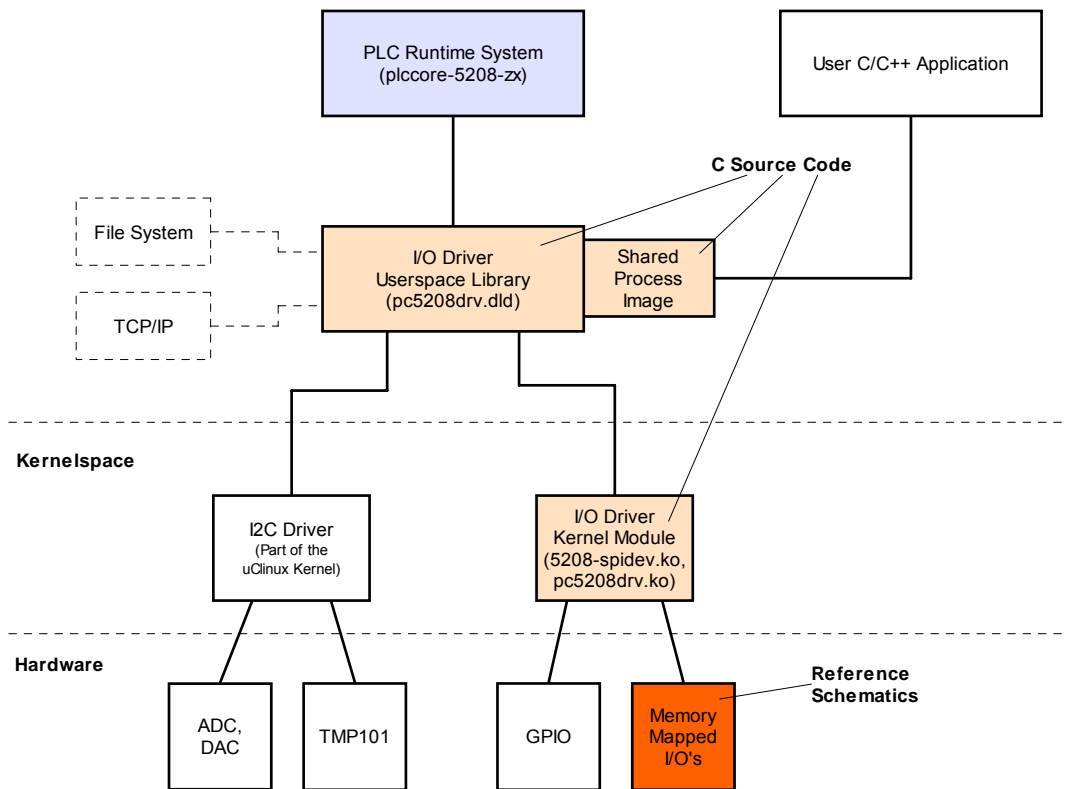

Figure 30: Overview of the Driver Development Kit for the PLCcore-5208
Figure 30 provides an overview of the DDK structure and its components. The DDK contains amongst others the source code of the Linux kernel driver (*pc5208drv.ko*) and the Linux user library (*pc5208drv.dla*).
1. Source code for the uClinux kernel driver (pc5208drv.ko, see Figure 30); includes all files necessary to regenerate kernel drivers (C and H files, Make file etc.)
2. Source code for the Linux user library (pc5208drv.dld, see Figure 30); contains all files (incl. implementation of Shared Process Image) necessary to regenerate a user library (C and H files, Make file etc.)